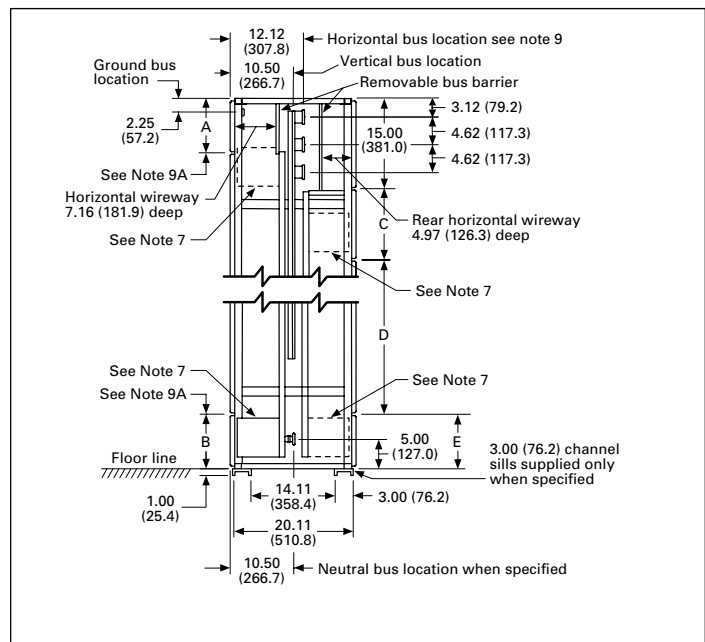

Figure 52. Side view B
5. This conduit space is not recommended when a neutral bus and/or a space heater is required. Otherwise, this space is available for conduit. See **Figure 52** for vertical dimensions.